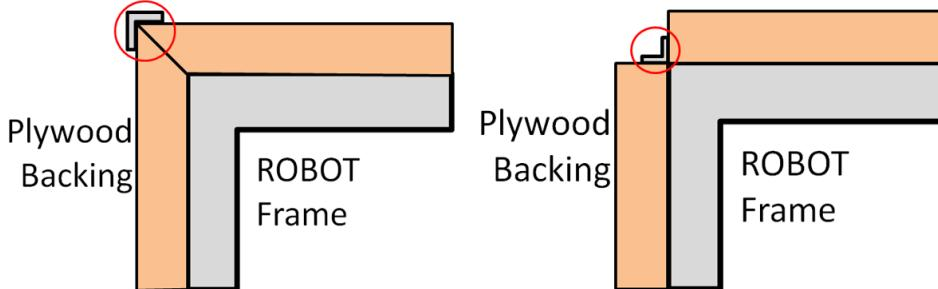

Figure 9-5 Hard Parts of BUMPER Corners
- F. optionally use metal brackets (i.e. angle or sheet metal) to attach BUMPER segments to each other (see Figure 9-5).